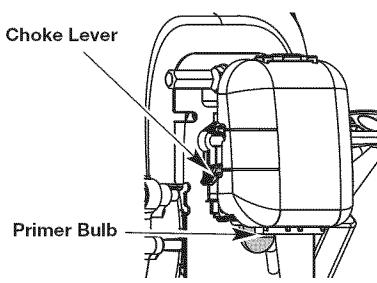
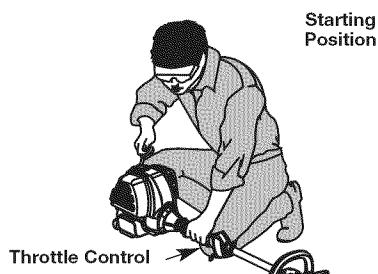

Fig. 7
Fig. 8
WARNING: Avoid accidental starting. Make sure to be in the starting position when pulling the starter rope (Fig. 8). To avoid serious injury, the operator and unit must be in a stable position while starting.
3. Fully press and release the primer bulb 10 times, slowly. Some amount of fuel should be visible in the primer bulb and fuel lines (Fig. 7). If fuel can not be seen in the bulb, press and release the bulb until fuel is visible.
4. Place the choke lever in **Position 1** (Fig. 7).
5. Crouch in the starting position (Fig. 8). Press the throttle lock-out in and squeeze the throttle control lever. Pull the starter rope 5 times.
6. Place the choke lever in **Position 2** (Fig. 7)
9. Continue squeezing the throttle control, move the choke lever to **Position 3** (Fig. 7) and continue warming the engine for an additional 60 seconds. The unit may be used during this time.
- IF...** the engine hesitates, return the choke lever to **Position 2** (Fig. 7) and continue warm-up.
3. Fully press and release the primer bulb 10 times, slowly. Some amount of fuel should be visible in the primer bulb (Fig. 7). If fuel cannot be seen in the bulb, press and release the bulb until fuel is visible.
4. Move the choke lever to **Position 1** (Fig. 7).
5. Crouch in the starting position (Fig. 8). Place the electric starter or power start bit into the back of the unit. Refer to the Operation section of the Electric Starter or Power Start Bit operator's manual.
6. Press the throttle lock-out in and squeeze the throttle control lever. Press and hold the electric starter or drill **ON (I)** button for 2 seconds.
7. Move the choke lever to **Position 2** (Fig. 7).
8. Press the throttle lock-out in and squeeze the throttle control lever. Press and hold the electric starter or drill **ON (I)** button for 2-second intervals until the unit starts.
10. Continue squeezing the throttle control, move the choke lever to **Position 3** (Fig. 7) and run the unit for an additional 60 seconds. The unit may be used during this time.
IF... the engine hesitates, return the choke lever to **Position 2** (Fig. 7) and continue warm-up.